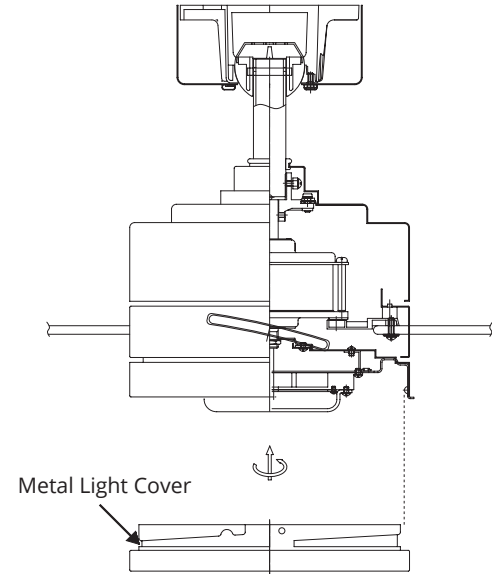

FIG. 20
5. If installing the optional metal light cover, make sure it is securely tightened (FIG. 20).
NOTE: Add metal light cover if you do not need lighting function or prefer a different aesthetic (FIG. 20).